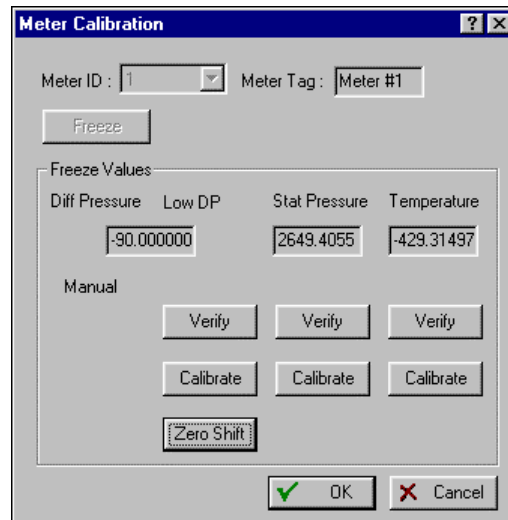

Figure 8-1. Meter Calibration (FloBoss 103 Shown)
6. The Meter Calibration window displays. Refer to Figure 8-1. Click **OK** to close the calibration window, cancel the freeze values, and cause the FloBoss 100-Series unit to begin using live readings for the flow calculations.